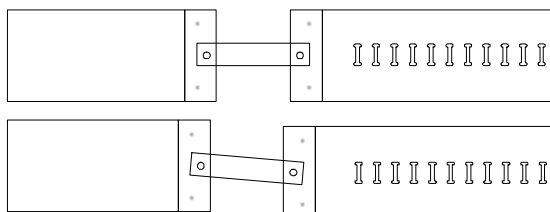

Fig. 8
16. If the band tension is quite correct the 2 screws for the carrier plate are slightly loosened to allow the band to be aligned. Subsequently, tighten the 3 screws carefully without distorting the carrier plate. Now both band edges must be aligned (Fig. 8).